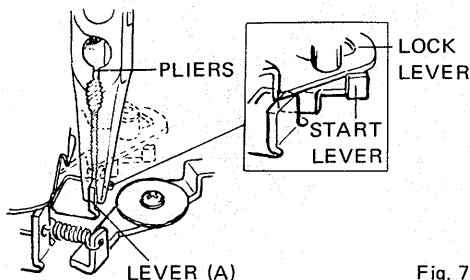

Fig. 7
- Even after adjustments were made according to description on page 4, lock lever and starting lever may not be locked to pick-up plate pin. Refer to Fig. 7. Bend stopper to adjust catch timing of lever A.